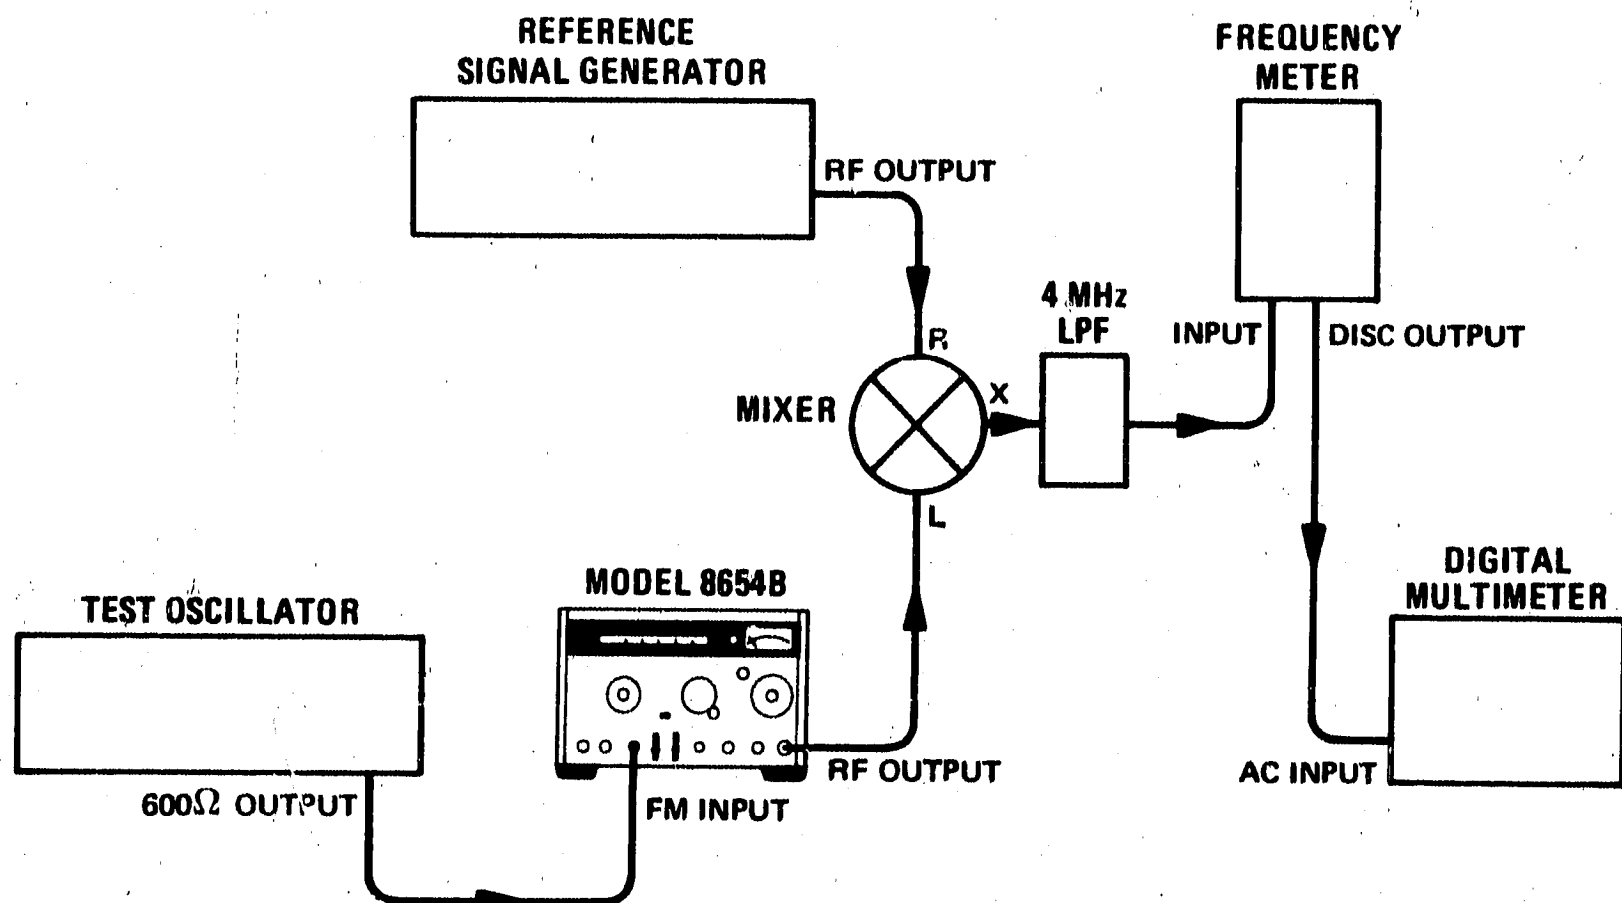

Figure 4-8. FM Bandwidth Test Setup
2. Connect equipment as shown in Figure 4-8 after setting test Signal Generator controls as follows: